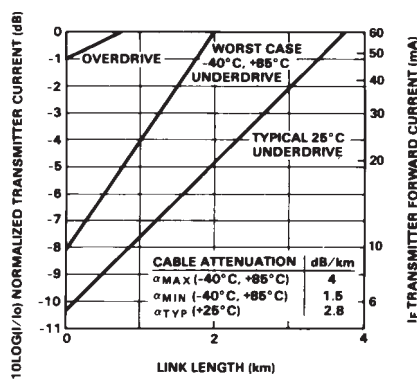

Figure 3. HFBR-1414/HFBR-2412 Link Design Limits with 62.5/125 μm Cable.
Maximum distance required = 400 meters. From Figure 3 the drive current should be 15 mA. From the transmitter data $V_F = 1.5\text{ V (max.)}$ at $I_F = 15\text{ mA}$ as shown in Figure 9.
The curves in Figures 3, 4, and 5 are constructed assuming no in-line splice or any additional system loss. Should the link consists of any in-line splices, these curves can still be used to calculate link limits provided they are shifted by the additional system loss expressed in dB. For example, Figure 3 indicates that with 48 mA of transmitter drive current, a 1.75 km link distance is achievable with $62.5/125\ \mu\text{m}$ fiber which has a maximum attenuation of 4 dB/km. With 2 dB of additional system loss, a 1.25 km link distance is still achievable.
2. Typical performance of circuits shown in Figure 1 and Figure 3 of AN-1038 (see applications support section).
2. Typical performance of circuits shown in Figure 1 and Figure 3 of AN-1065 (see applications support section)